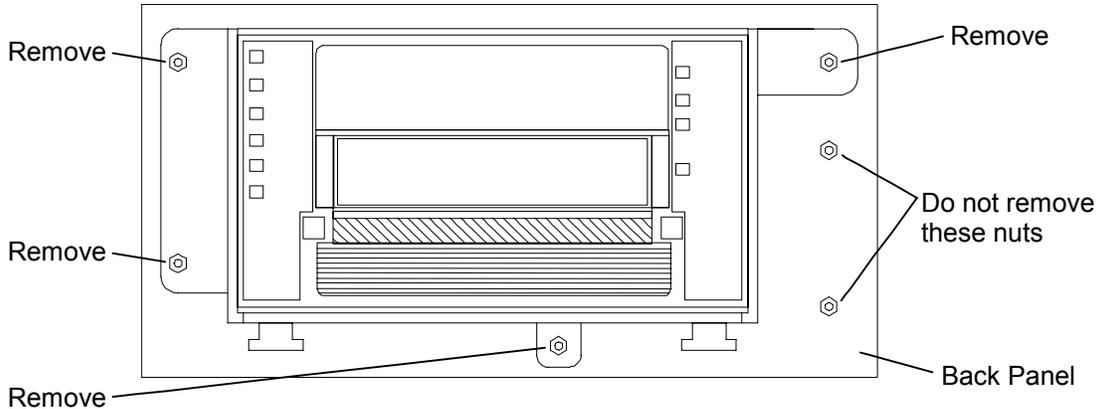

Figure 5-23 Front View of Tape Drive Assembly
7. If the back panel is being detached, use a 1/4-inch nutdriver or wrench to remove the four locking nuts that secure the back panel. Do not remove the two locking nuts securing the circuit board. See Figure 5-23.